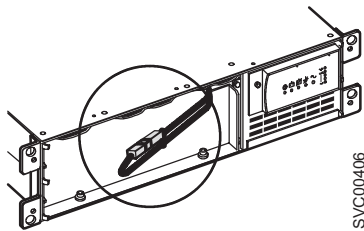

Figure 278. Connecting the 2145 UPS internal battery connectors
- b. Connect the internal battery connector (shown in Figure 278).